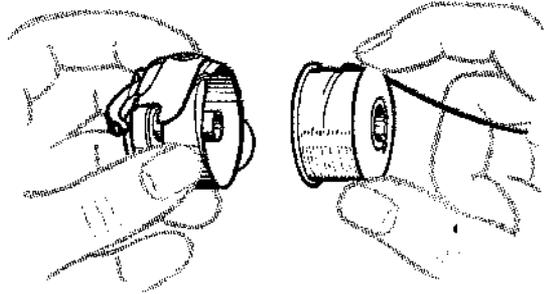

FIG. 20.
- Hold bobbin case with slot in edge at the top and wound bobbin with thread leading on top towards the right, as shown in Fig. 20.